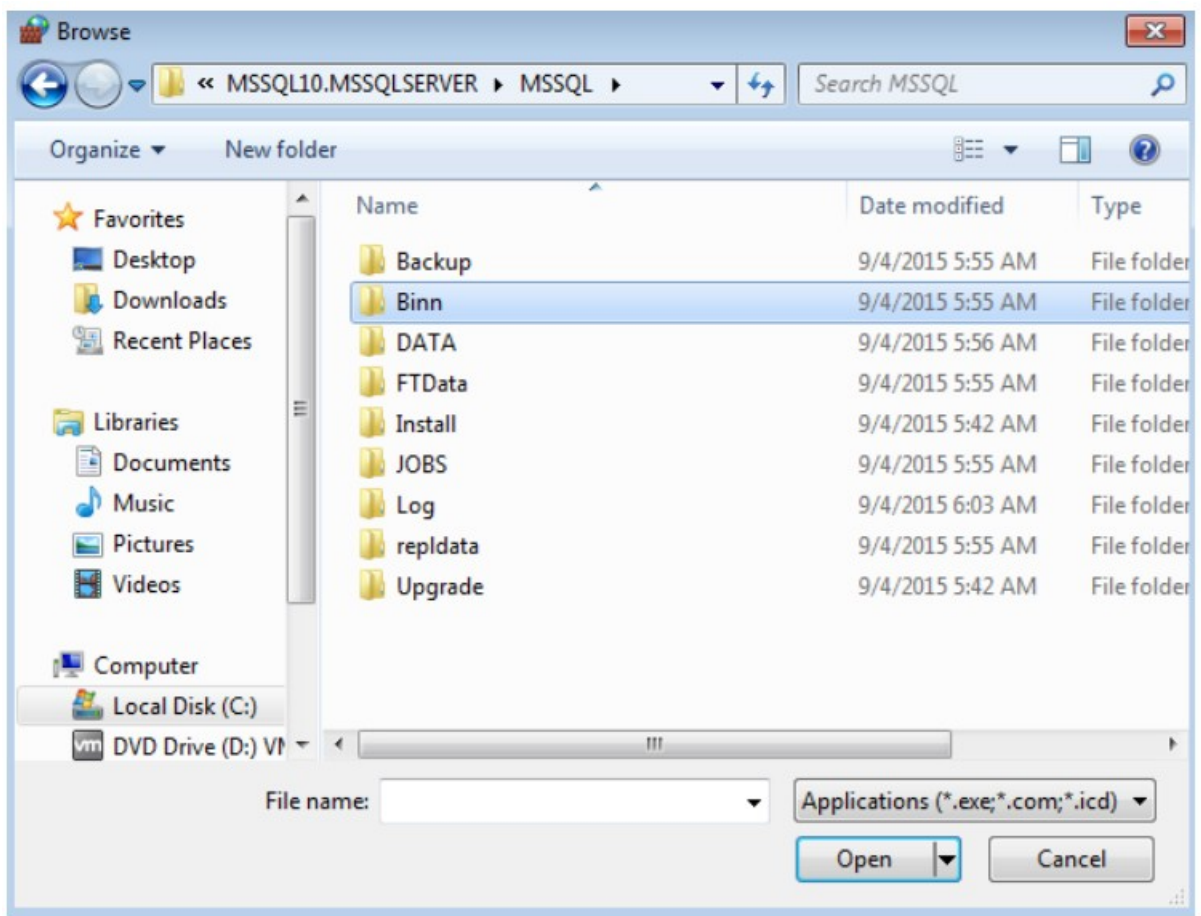

Fig.1.21 MSSQL
(9) Open “Binn” folder (see Fig.1.21).